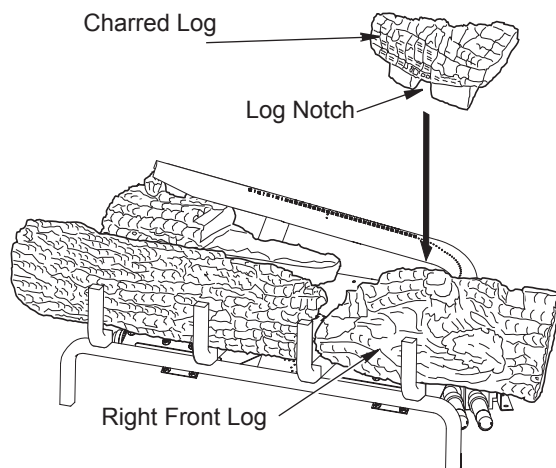

Figure 22 - Installing Charred Log
4. Find the charred log (D-020). See Figures 22, 22A, and 22B. The log has a slot in the bottom that fits over the square grate and rests against the burner tube as shown in Figure 22. Place this log on the base as shown in figures.